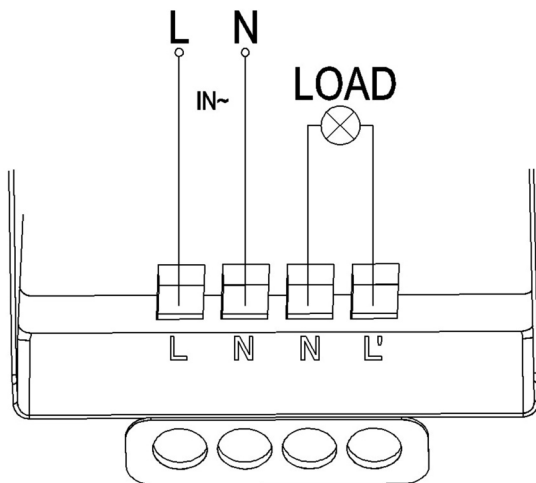

FIGURE 2
- 7) Connect the cable to the terminal block mounted on the back of the sensor housing as per FIGURE 2.